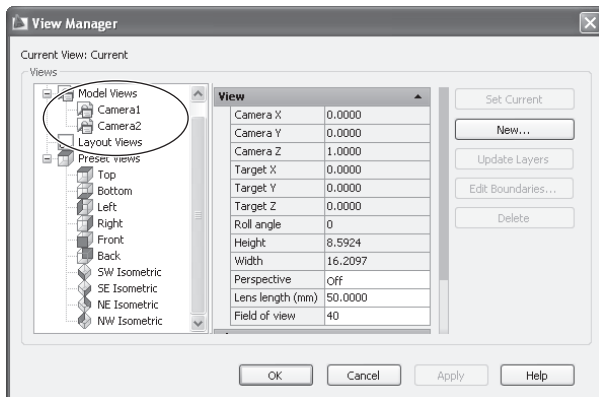

**Figure 6.24**
1. Place the cursor on the camera or target grip, but don't click. After a moment, you will see the **Grip tool** (see Figure 6.24).